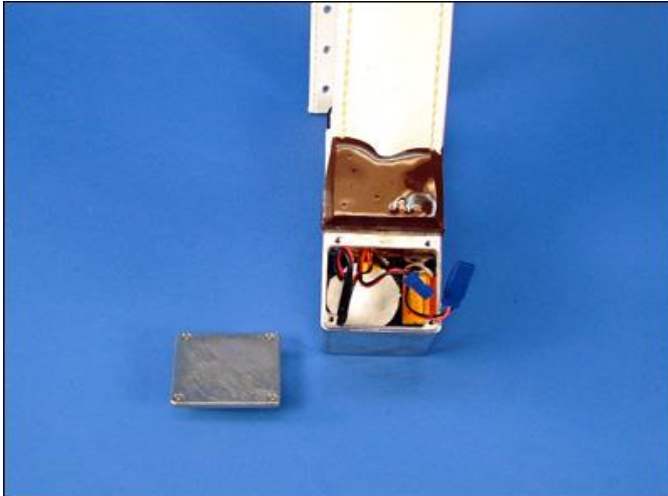
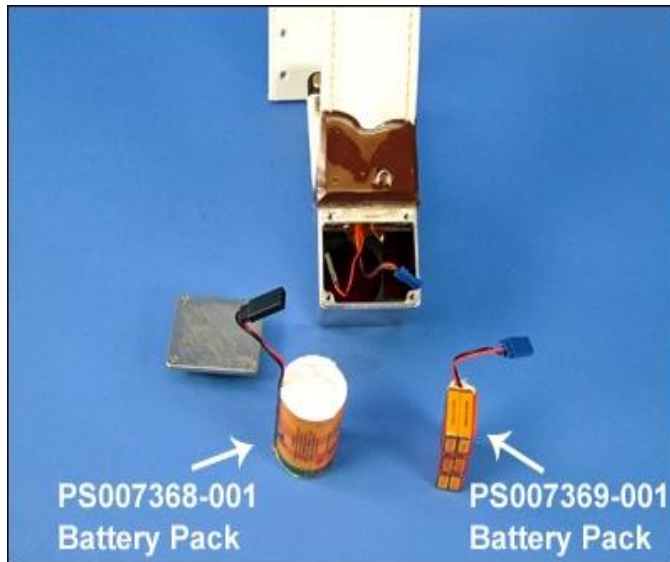

Fig. 3 Battery packs disconnected and ready to be removed.
Fig. 4 Battery packs removed
3. Disconnect the blue connector for the VHF battery pack, **(Fig. 3)** and then disconnect the black connector of the GPS battery pack. Each of the packs can now be removed from their respective battery compartments with a gentle pull on the battery leads. **(Fig. 4)**